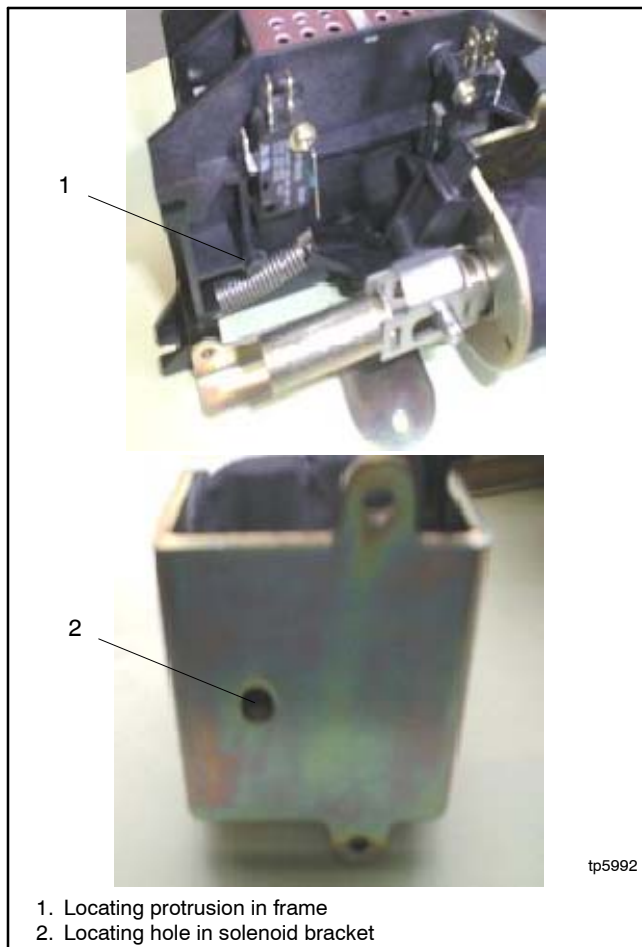

Figure 7-12 Locating the Solenoid Assembly, Typical
2. Align locating hole in the solenoid bracket with the locating protrusion in the frame. See Figure 7-12.